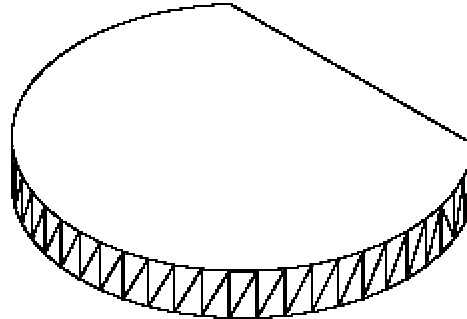

Figure 24-93 Base of the model
2. Choose the **Extrude** button from the **Solids** toolbar and extrude the region to a distance of 1.5. See Figure 24-93.